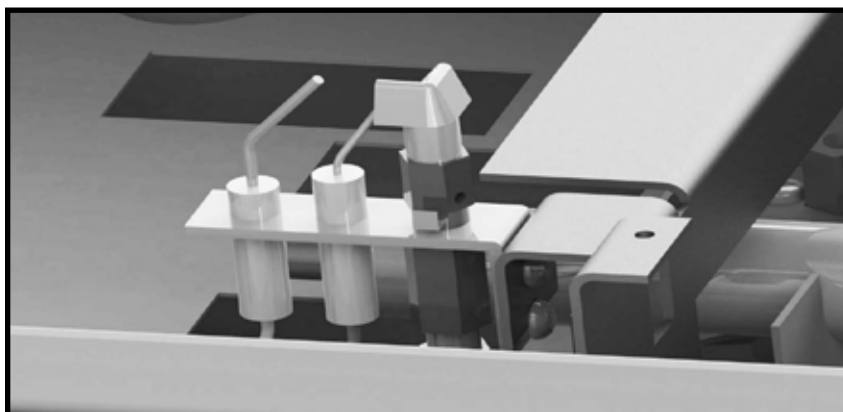

Figure 44: ngo4 Pilot positioning.
3. Attach pilot to center tray leg (Figure 44)